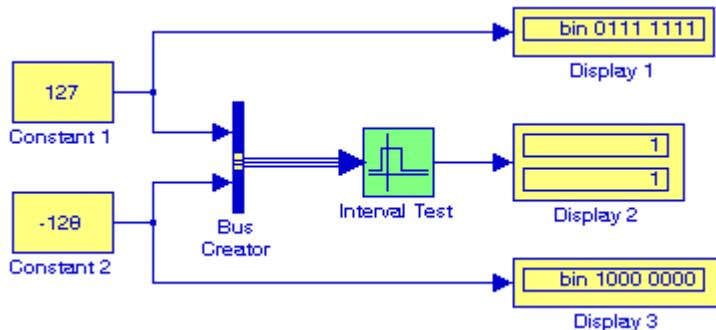

Figure 6.1. Model for Example 6.1
The model is shown in Figure 6.1. We recall that in an 8-bit binary string the largest positive number is 127 (binary [01111111]) and the smallest negative number in an 8-bit binary string is
–128 (binary [10000000]). In the model of Figure 6.1, the Constant 1 and Constant 2 blocks have been specified as Output data type **sfix(8)**, the Display 1 and Display 3 blocks have been specified as **binary (Stored Integer)**, and the Display 2 block has been specified as **Format short**.